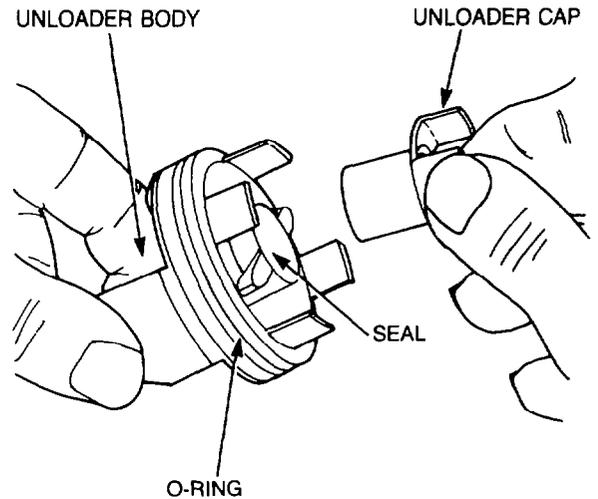

Figure 258 — Unloader Valve — Assembly
- n. Install a new O-ring and seal on the unloader body, then lubricate the O-ring with clean engine oil, and the seal with a suitable anti-seize compound. Install the unloader cap into the unloader body (see Fig. 258).